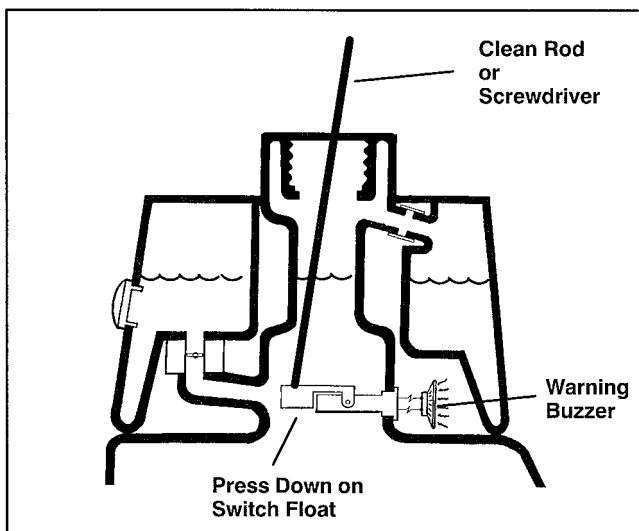

Figure 22
- Insert a clean rod or screw driver into tank neck and gently push down on switch float (Fig. 22). Alarm should sound after one second delay.